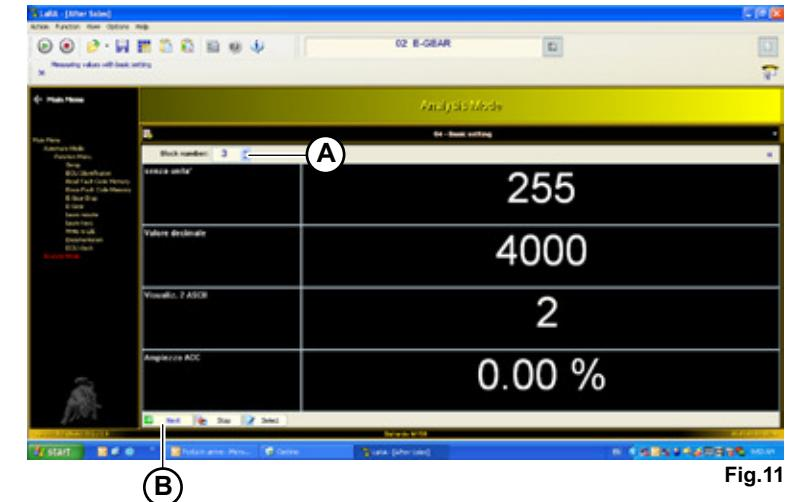

Fig.11
- Select routine 3 inside the block number (**A-Fig.11**).
- Start the connection () and press the start push-button (**B-Fig.11**).